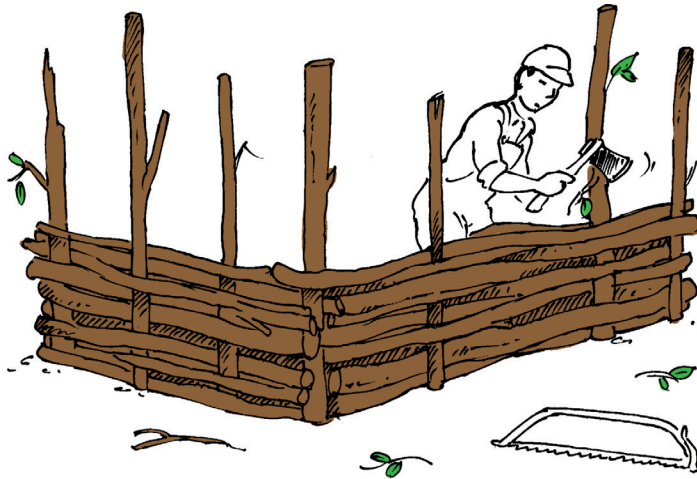

Figure 8: House A
- What material is being used to build the house in Figure 8?
- What tools are used by the people building the house in Figure 8?